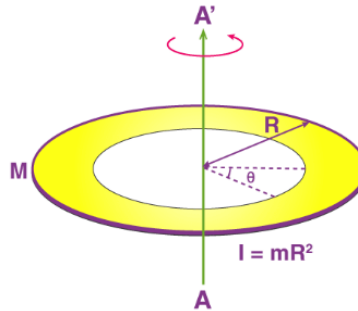

Figure 2. Moment of inertia of a uniform ring.
B.6. Given that the moment of inertia of a uniform ring is $I = mR^2$ as shown in Figure 2. Given that the mass is M and radius is R .